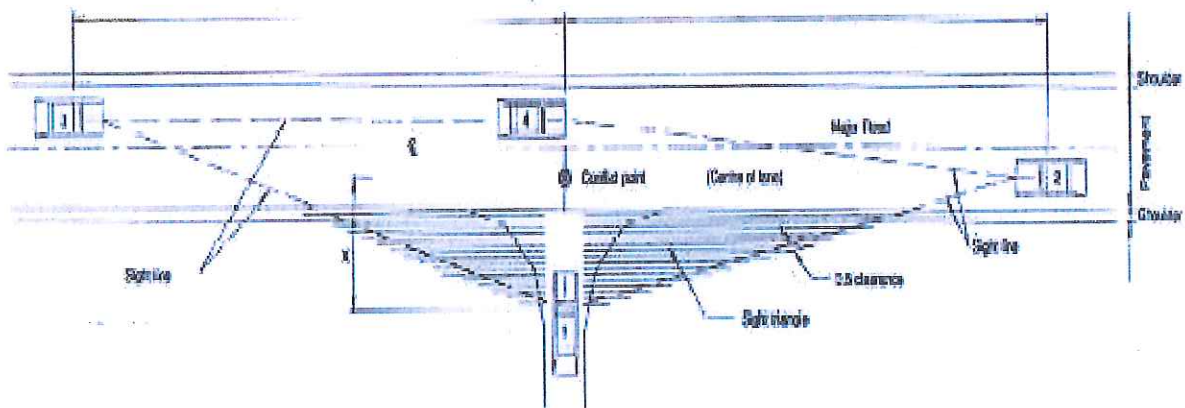

Figure E4.7.4 Sight Lines for Accesses and Junctions
- (ii) These sight line requirements are to be maintained over the full sight triangle for vehicles at any point between positions 1, 2 and 3 in Figure E4.7.4 and the access junction;
- (iii) A driver at position 1 must have sight lines to see cars at any point between the access and positions 3 and 2 in Figure E4.7.4;